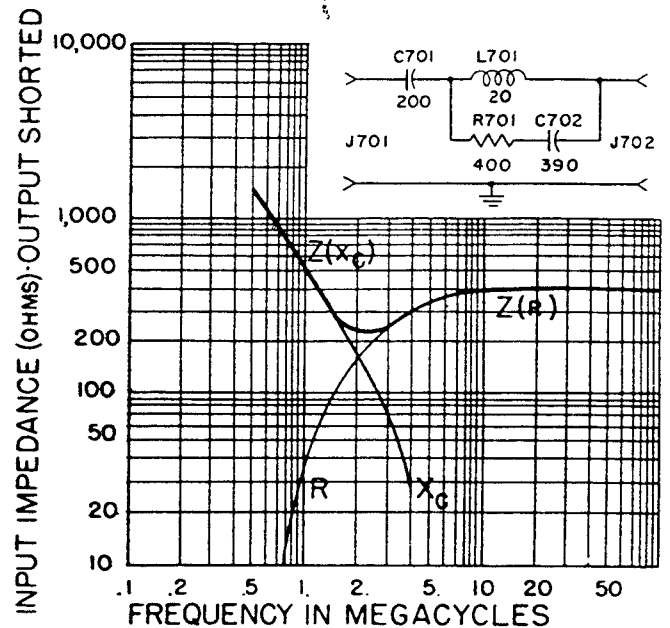

Figure 4-8. Schematic Diagram of the Antenna Simulator SM-35/URM-25 with Input Impedance Frequency Curve
(See figure 4-8).
c. It can be seen from figure 4-8 that the minimum impedance of the antenna simulator will be approximately 220 ohms at 2 mc. This impedance becomes much higher at lower frequencies and approaches 400 ohms at higher frequencies. In using the meter (M101) of the signal generator it should be realized that a 20 percent maximum error may be introduced at 2 megacycles. If greater meter accuracy is required when using the antenna simulator, the actual impedance of this unit should be calculated from figure 4-8 at the frequency selected.
d. From the impedance curve (figure 4-8), it can be seen that the minimum impedance of the antenna simulator will be approximately 220 ohms. When using this unit, first connect one end of the Impedance Adapter MX-1487 URM-25D to the output cable (W104) and plug the other end of W104 into J102 on the signal generator. Using the auxiliary cable (W105), connect the antenna simulator to the impedance adapter. If necessary, the second auxiliary cable (W106) may then be used to connect the antenna simulator to the receiver under test.
is 20 mc, it can be seen from figure 4-8 that the series impedance of the antenna simulator will be approximately 400 ohms resistive. Make the necessary connections as indicated in paragraph 9 of this section. A meter indication of 10,000 microvolts represents an input voltage of 10,000 microvolts to the antenna simulator.
f. For accurate receiver output voltage indication it should be remembered that the total load impedance represented by the antenna simulator in series with the load of the instrument under test should be at least 500 ohms. From figure 4-8 it is apparent that the accuracy will be sufficiently good at frequencies above 5 mc. Below 5 mc, the impedance falls off to approximately 220 ohms and the receiver input load should be sufficiently high (approximately 280 ohms or greater) to maintain the accuracy.